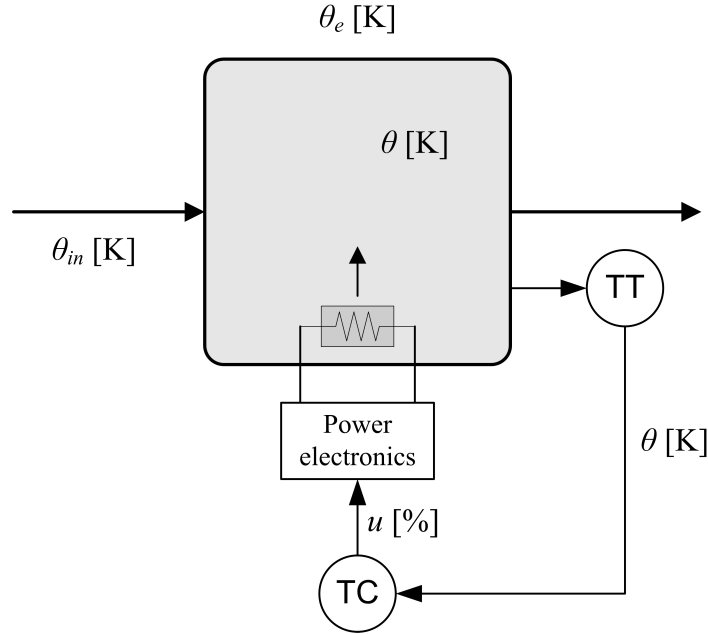

Figure 1: P&I diagram
2. (a) (5%) Figure 1 shows a P&I D of the control system.